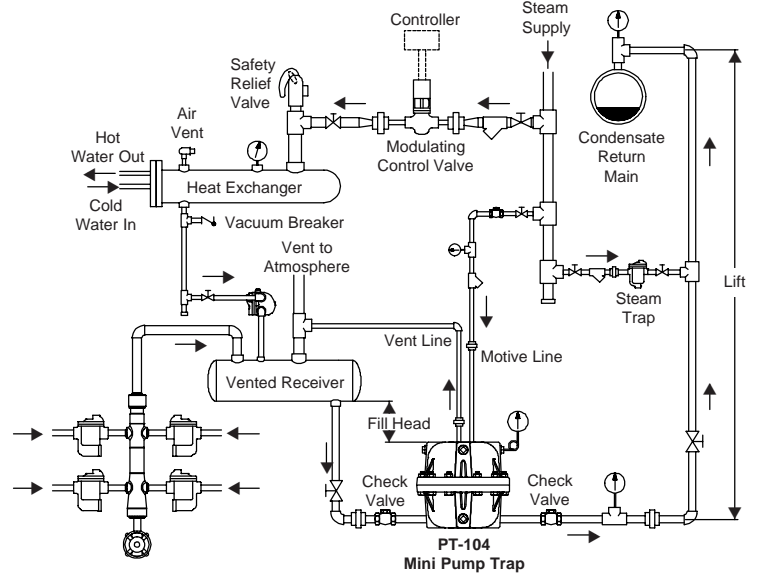

Fig. 5-1 Multiple or single traps discharging to a vented receiver.
Notes: Published capacities are based on the use of external check valves supplied by Armstrong. Fill head measured from drain point to top of pump case. See Figures 5-1 and 5-2.
- Vertical lift expressed in psig, See Figure 5-1 or Figure 5-2.
Important Note: Vented Receiver Sizing. When draining from single or multiple pieces of equipment in an "open system", a vented receiver should be installed horizontally above and ahead of the pump trap (See Figure 5-1). In addition to sufficient holding volume of the condensate above the fill head of the pump trap during the pump trap discharge cycle, the receiver **must** also be sized to allow enough area for flash steam and condensate separation. An overflow could also be added when required. The minimum recommended water seal is 12". The chart above shows proper receiver tank sizing based on flash steam present. See Chart 4-1 to calculate the % of flash steam at a atmospheric (0 psig) pressure.
* **Note:** Fill head measured from drain to top of cap. See Figure 5-1 and Figure 5-2.